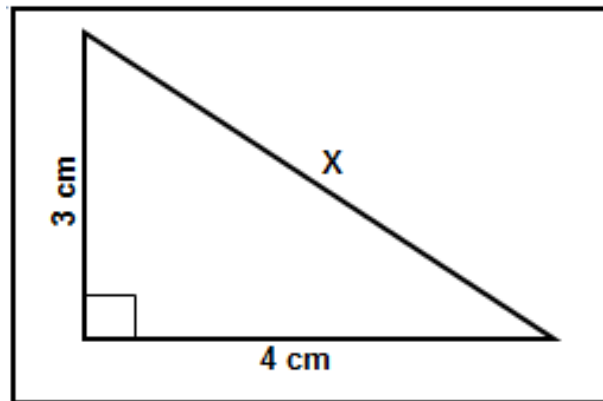

FIGURE 4.14
4.14 Calculate the value of **X** as indicated in FIGURE 4.14 below.